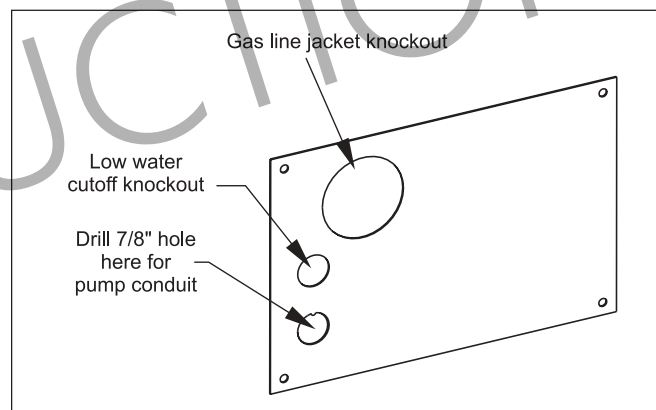

**Figure 6. Return Header Side of Unit.**
9. Attach the pump adapter with pump to the return header side of the heat exchanger. Place a new header gasket between the heat exchanger and the pump adapter. Make sure the gasket holes line up with the holes on the pump adapter (see Figure 6). If the holes do not line up, flip the gasket over so the holes on the gasket line up with the holes on the pump adapter.